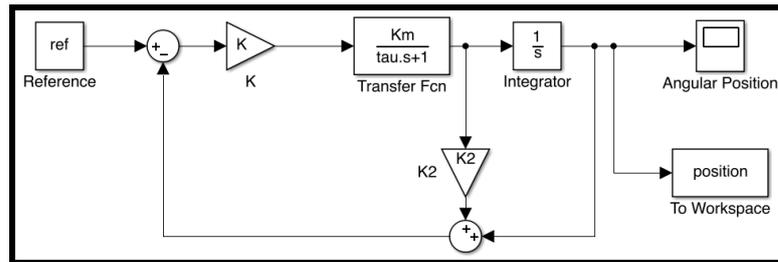

Figure 3.6: Final Simulink Simulation Model
17. Open the **CL_Simulation.slx** file created in the *Closed Loop Step Response* experiment. It should appear as in Figure 3.6. Set the simulation time to 10 seconds.